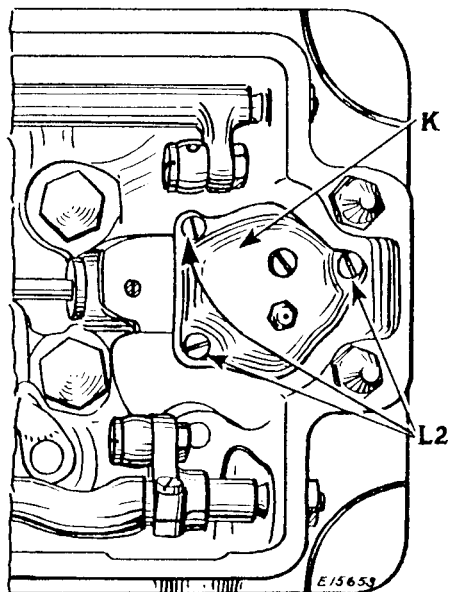

Fig. 29. Removing Lower Gear Case Cover for Hook Shaft Removal
Remove the sewing hook as instructed on page 25. Take out the three screws (L2, Fig. 29) and remove the cover of the gear case (K), then wipe the grease from the gears.
Replace the gear case cover and fasten it in place with the three screws (L2, Fig. 29).